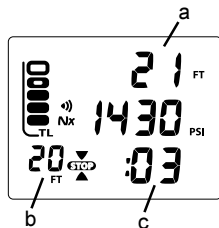

Fig. 77 - DECO STOP MAIN
**DECO STOP MAIN**, information includes (Fig. 77) -